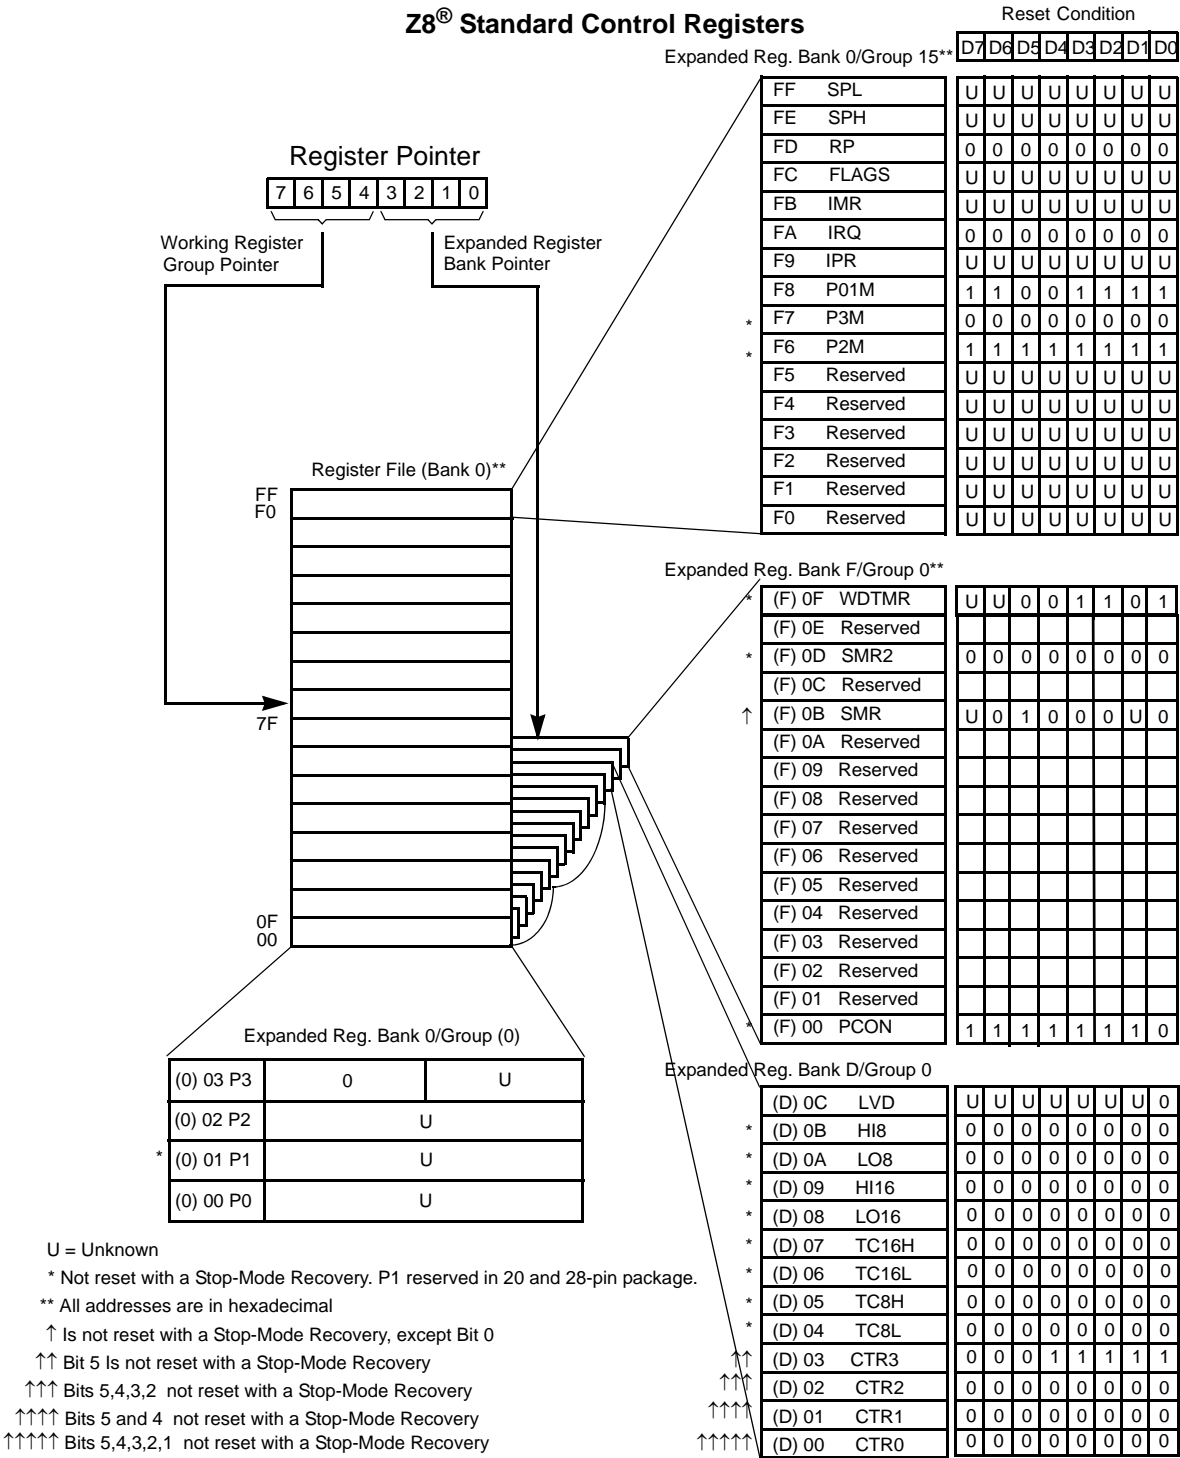

Figure 14. Expanded Register File Architecture
- **Note:** An expanded register bank is also referred to as an expanded register group (see Figure 14).
Example: Crimzon™ ZLR32300: (See Figure 14 on page 25)